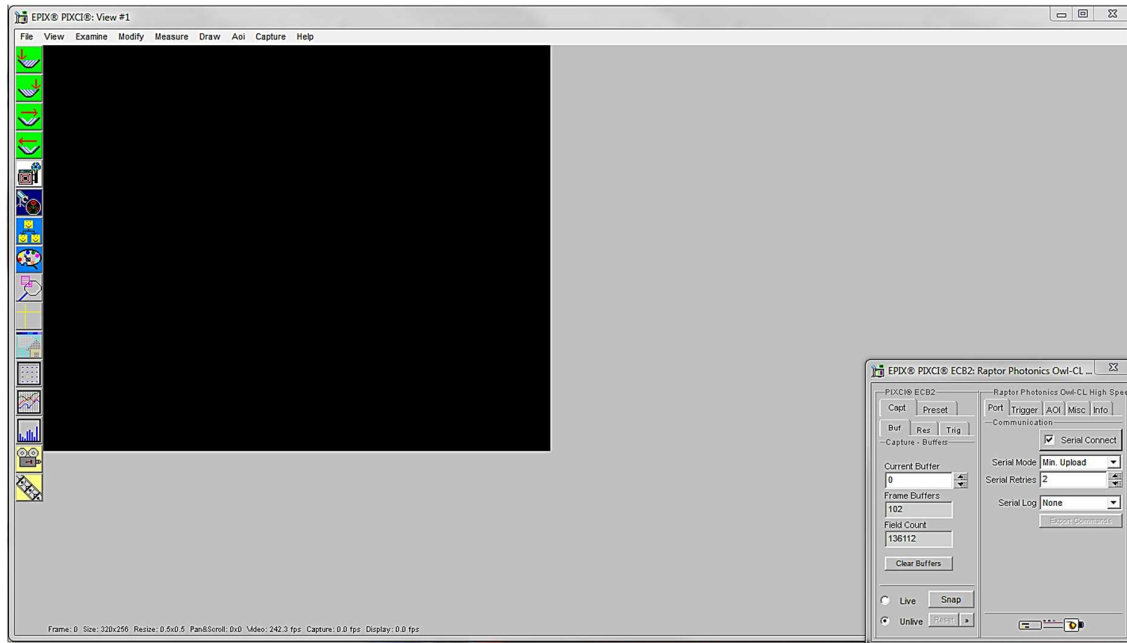

Figure 3: XCAP Camera Control Screen
5. Select Open and the viewing and control screens, Figure 3, will now open. Two windows should open (Figure ), a viewing window (Left) and a control window (Right).